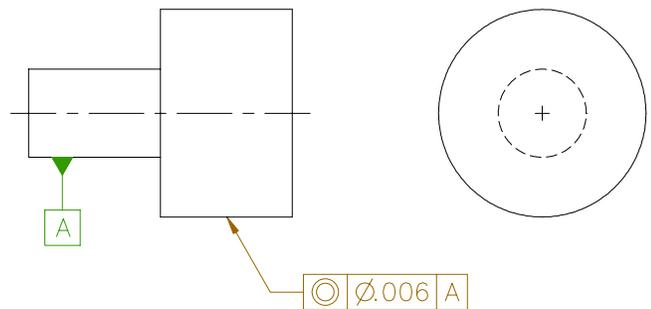
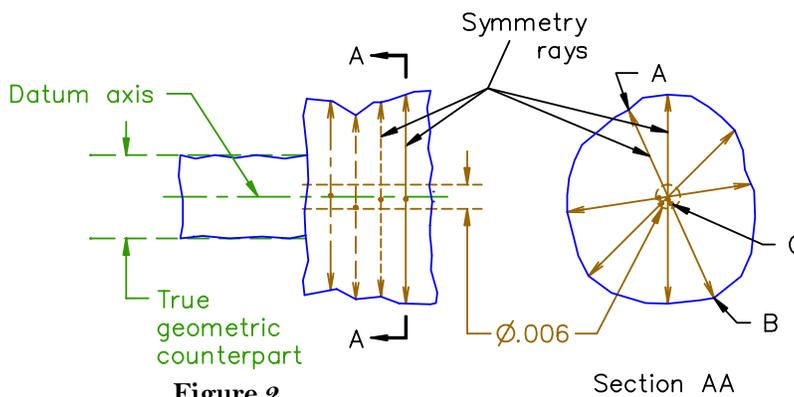

Figure 1
Figure 2
In the GD&T world, *concentricity* is “that condition where the median points of all diametrically opposed elements of a figure of revolution (or correspondingly-located elements of two or more radially-disposed features) are congruent with the axis (or center point) of a datum feature.” Figure 1 shows an acceptable method of placing a concentricity control on a drawing. This control creates a cylindrical tolerance zone whose axis is coincident with the axis of the datum feature (Figure 2). The median points of each of the *opposed elements* must lie within the tolerance zone.
“obtained by intersecting a pattern of symmetry rays with the actual feature.” The symmetry rays are *projected from* and *perpendicular to* the datum axis and are also projected 180° apart. The intersection of these two symmetry rays with the feature surface defines two points (for example; A and B in Figure 2). The median point (C) between A and B must lie within the cylindrical tolerance zone, which in our case has a diameter of .006.
Although the inspection shown is similar to methods used to check runout and is more difficult to perform, concentricity is actually a “looser” control than runout. Runout controls *all* points on a surface, while concentricity only controls *opposing* points. If we inspect concentricity using one dial indicator, as we do runout, and it passes runout, then it also passes concentricity. In Figure 1, if a part passes $\text{Ⓜ} \text{ } \phi .006 \text{ } \text{A}$, then it also passes $\text{Ⓢ} \text{ } \phi .006 \text{ } \text{A}$. Thus, you would only need to inspect to the “looser” concentricity control if it failed the more restrictive runout control.